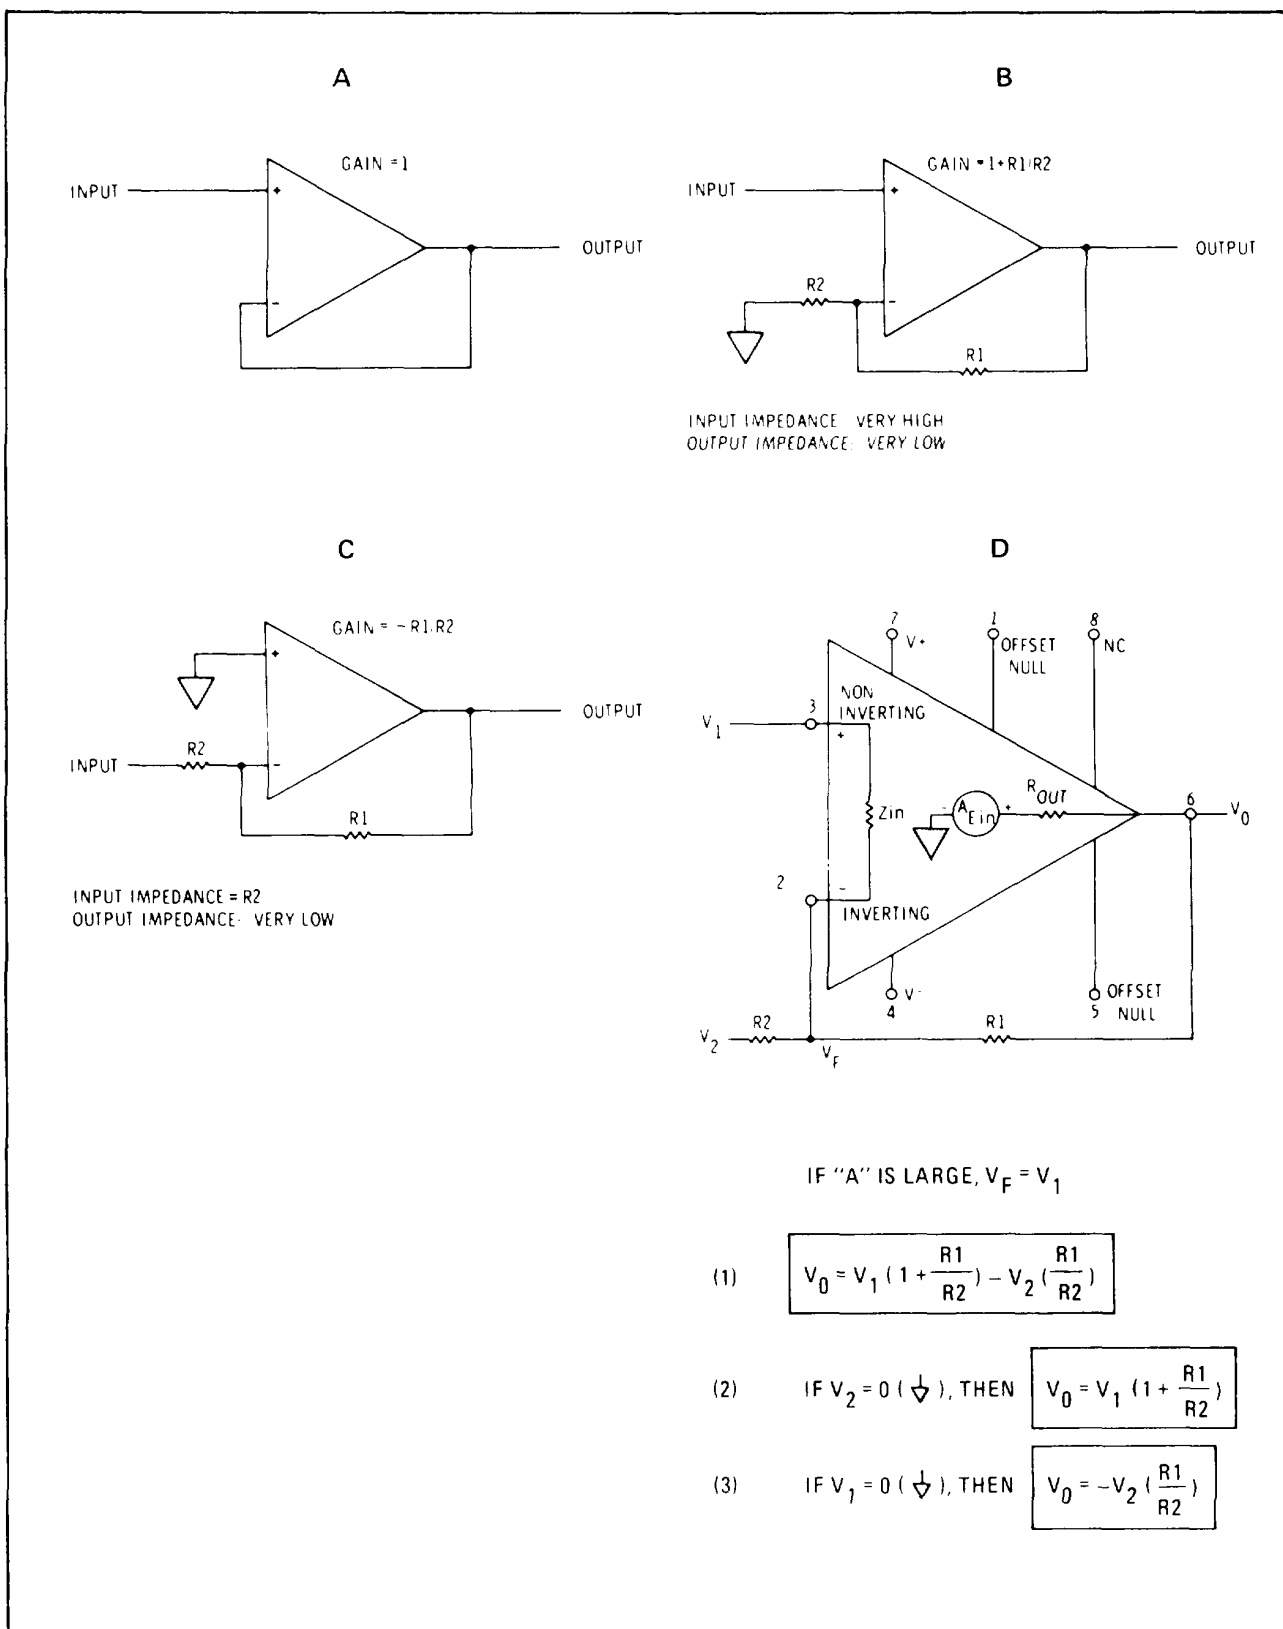

Figure 8-8. Operational Amplifier Equivalent Circuit
**8-40. Operational Amplifier Circuits and Symbols.** Operational amplifiers are used in the RF Section to provide such functions as summing amplifiers, offset amplifiers, buffers and power supplies. The particular function is determined by the external circuit connections. Equivalent circuit and logic diagrams for type 741 operational amplifiers are contained in Figure 8-8. Circuit A is a noninverting buffer amplifier with a gain of 1. Circuit B is a non-inverting amplifier with gain determined by the resistance of R1 and R2. Circuit C is an inverting amplifier with gain determined by R1 and R2, with the input impedance determined by R2. Circuit D contains the functional circuitry and pin